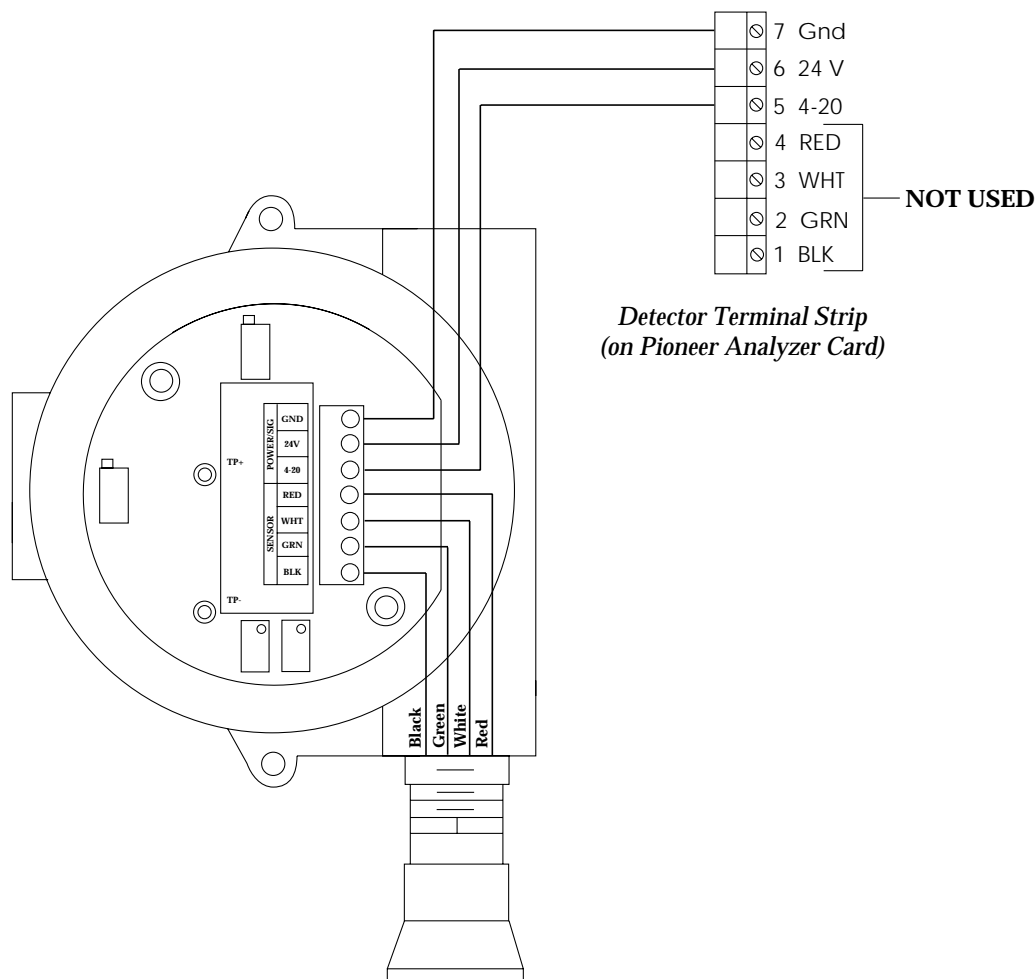

Figure 3: Wiring the Combustible Gas Transmitter to the Pioneer Gas Monitor
3. Verify that the detector leads are wired to the amplifier's interconnect terminal strip. If necessary, connect the detector leads to the interconnect terminal strip as shown in Figure 3.
5. Connect the three wires to the interconnect terminal strip as follows (see Figure 3.)
8. Connect the wires to the detector terminal strip of the applicable analyzer card as shown in Figure 3. The detector terminal strip is the 7-point terminal strip (terminals 1 through 7) on the card.